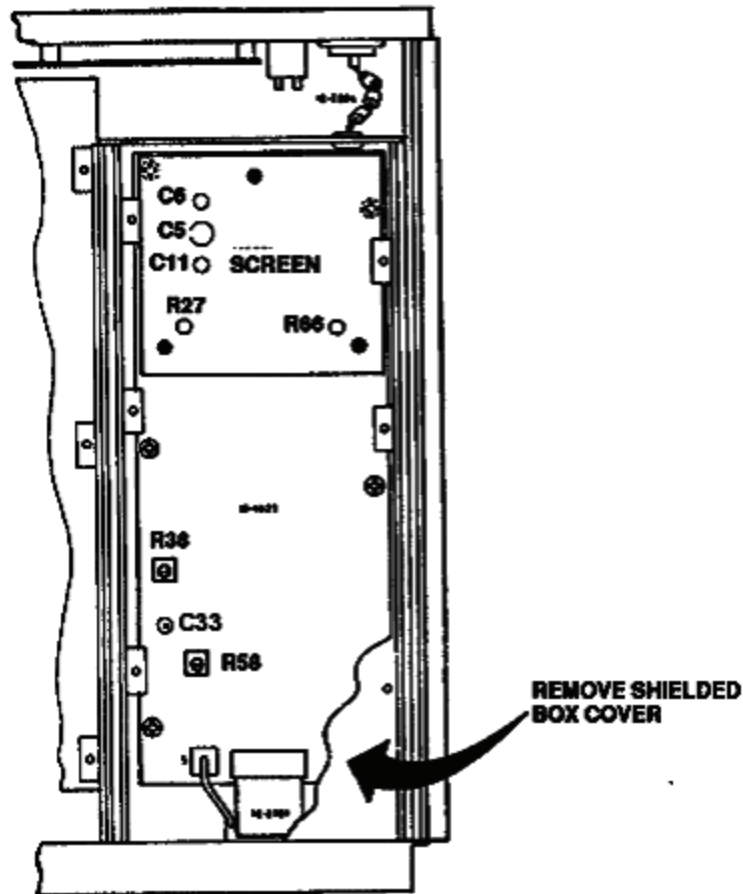

Figure 2. View of underside of module assembly.
³Figure 2.
(1) Set calibrator output for an initial 1.000V, 1 kHz wideband output. Adjust calibrator for TI indication equal to the value recorded in table 3 for 1.000V, 1 kHz, to establish a 1 kHz reference. Press calibrator **NEW REF** pushbutton.
(2) Set calibrator frequency to 10 MHz and adjust A3C33 fig. 2 for value recorded in table 3 for 1.000V, 1 kHz. Repeat steps 8 a (5) through (7) above (R).